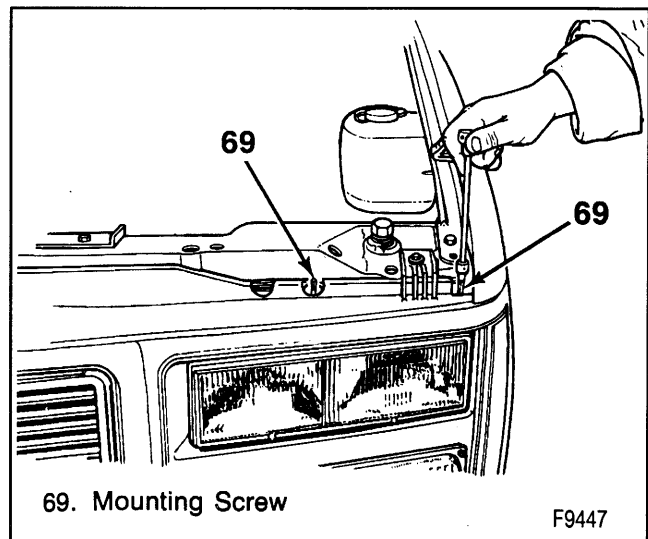

Figure 20—Composite Headlamp Removal
Remove or Disconnect (Figures 20 and 21)
3. Two long screws from the top of the radiator support (figure 20).
→← Install or Connect (Figures 20 and 21)